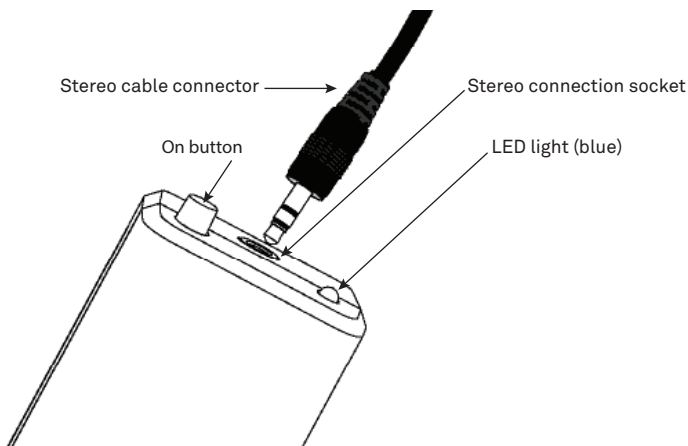

Figure 6 ZSC Bluetooth stereo cord connection
6. Plug in the TEROS 32 to the ZSC Bluetooth Interface with the stereo connector (Figure 6).